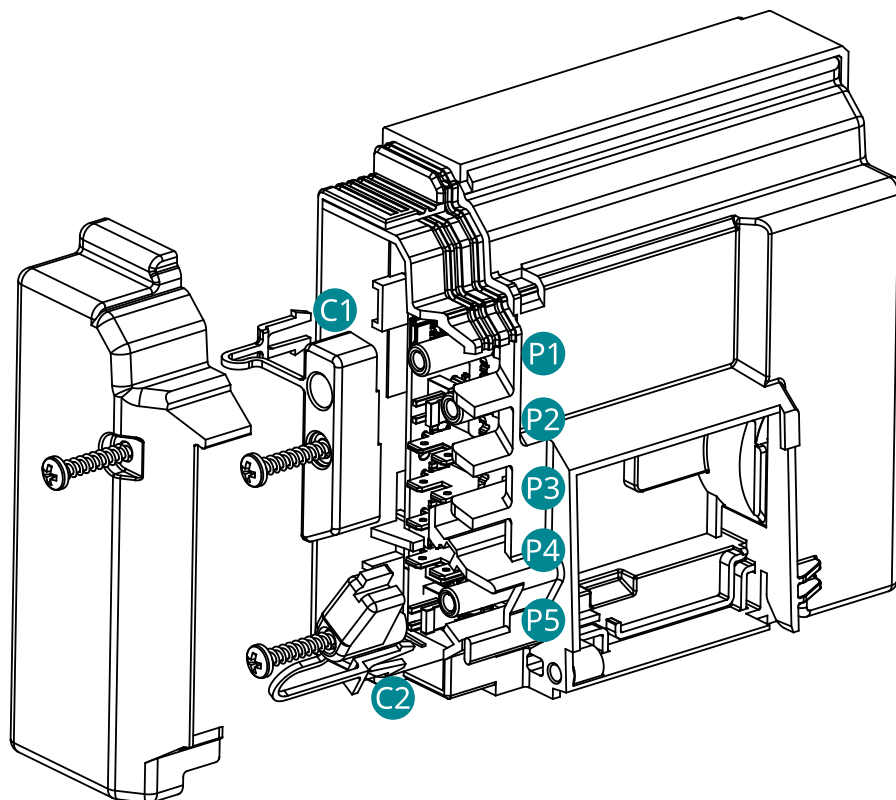

Figure 3-2: Cables arrangement – Inverter attached version for VEM, VEH, VEG and FMF compressors
2. Carefully position the Safety earth cable within the cable clamp area as shown in Figure 3-2.
3. Pass the remaining cables through the cable clamp guides as shown in Figure 3-2.
4. Assemble and fasten the cable clamp to hold the cables firmly in place as shown in Figure 3-2.
5. Tighten the cable clamp screw shown in Figure 3-2 to a torque of 0.8 – 1.2 Nm.